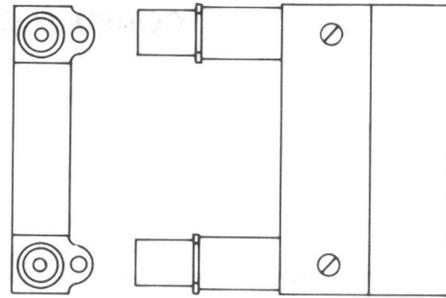

Fig. 3—552B Jack
2.03 552B: This twin coaxial-type jack (Fig. 3) has coaxially arranged inner and outer contacts. The outer contacts are connected together and jack construction permits strapping of inner contacts. A removable coverplate is furnished to be used in covering an unused cable entrance hole. One end of the 552B jack is designed to be used with the 358A and similar-type plugs. The other end is designed for solderless shield connections to a 728A cable by means of a sleeve which is furnished as a loose part of the jack. The jack will withstand a voltage breakdown of 3000 volts ac. Mounting lugs on the two individual jacks may be positioned for mounting side-by-side, in the same direction, or extended back-to-back. The 552B jack is recommended to be used in place of the 552A jack and also with the L4 Coaxial System.